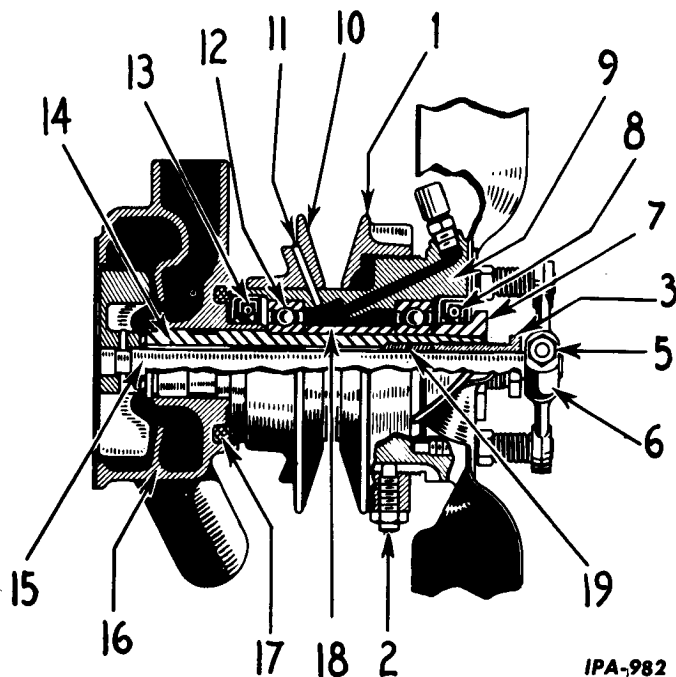

Fig. 22 - Water Pump and Fan Drive Cross Section (Packing Type) ('4' Series).
(Reference Numbers Refer to Fig. 22.)
6. If necessary to replace the adjustable pulley flange, it will be necessary to remove the fixed flange first by driving out the pin (11, Fig. 22).